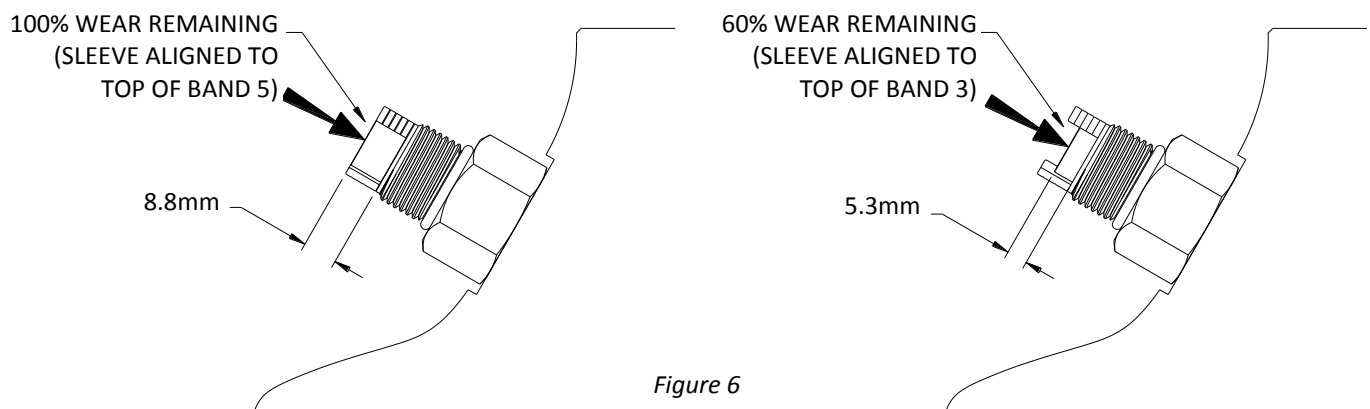

Figure 6
*Each band corresponds to 20% brake wear. Refer Figure 1 and Figure 6.